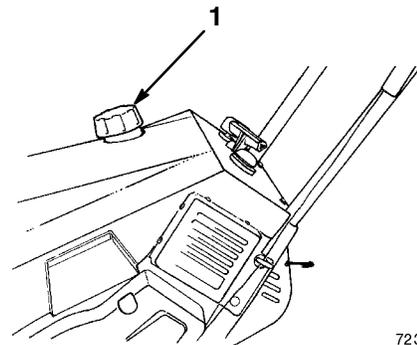

Figure 8
1. Clean around the fuel tank cap (Fig. 8)